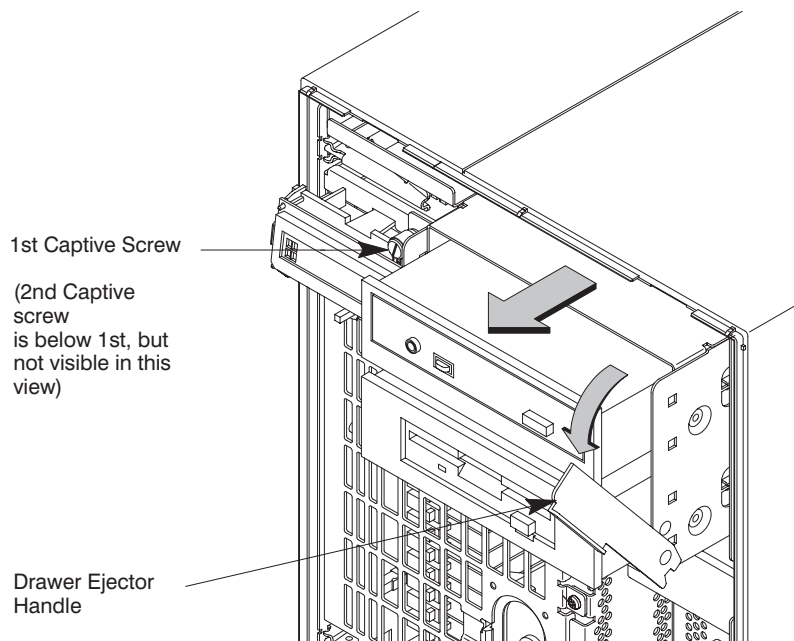

Figure 5–43. Removing Storage Drawer from System Unit
1. Unscrew the two captive screws on the left side of the Storage Assembly and pull down the drawer latch on the right side of the Storage Assembly, as shown in Figure 5–43.